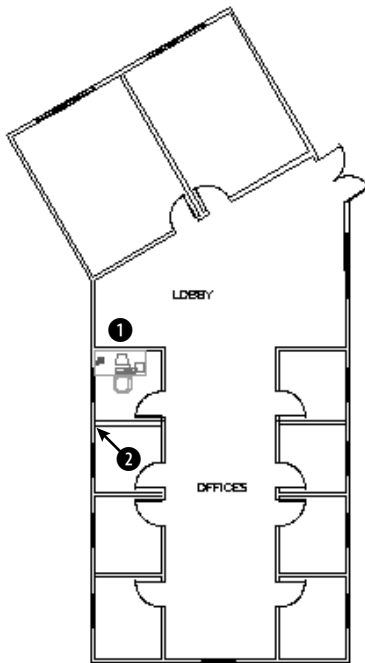

Figure 18-15: The office plan.
3. Choose Open from the Standard toolbar. Open **ab18-f-2.dwg** from the CD-ROM. This is the plan of an office building, as shown in Figure 18-15.
5.  Choose **Paste from Clipboard** from the **Standard** toolbar. At the **Specify insertion point:** prompt, pick ❶ in Figure 18-15. This action inserts the arm-chair in the lobby using the default scale and rotation.
10. Use Zoom Window to zoom in to the area around ❷ in Figure 18-15. At the prompt, pick ❷.